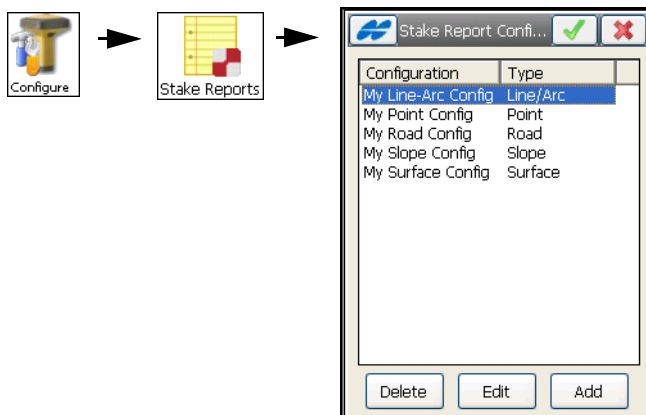

Figure 4-110. Stake Report Configuration
1. Tap the **Config** ► **Stake Reports** icons. The *Stake Report Configurations* screen displays a list of default styles of reports (Figure 4-110).